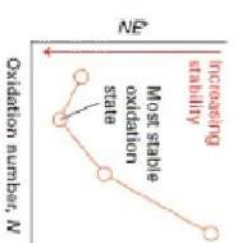

Fig. 1
① The element has most stable oxidation state in that species which occupies lowest position in Frost diagram. (Fig. 1)